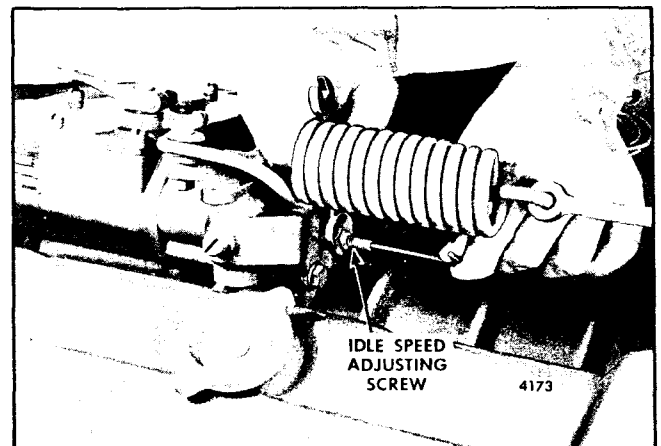

Fig. 12 - Adjusting Idle Speed
2. With the engine operating, loosen the lock nut and turn the idle speed adjusting screw (Fig. 12) in or out until the engine idles at 600 rpm.